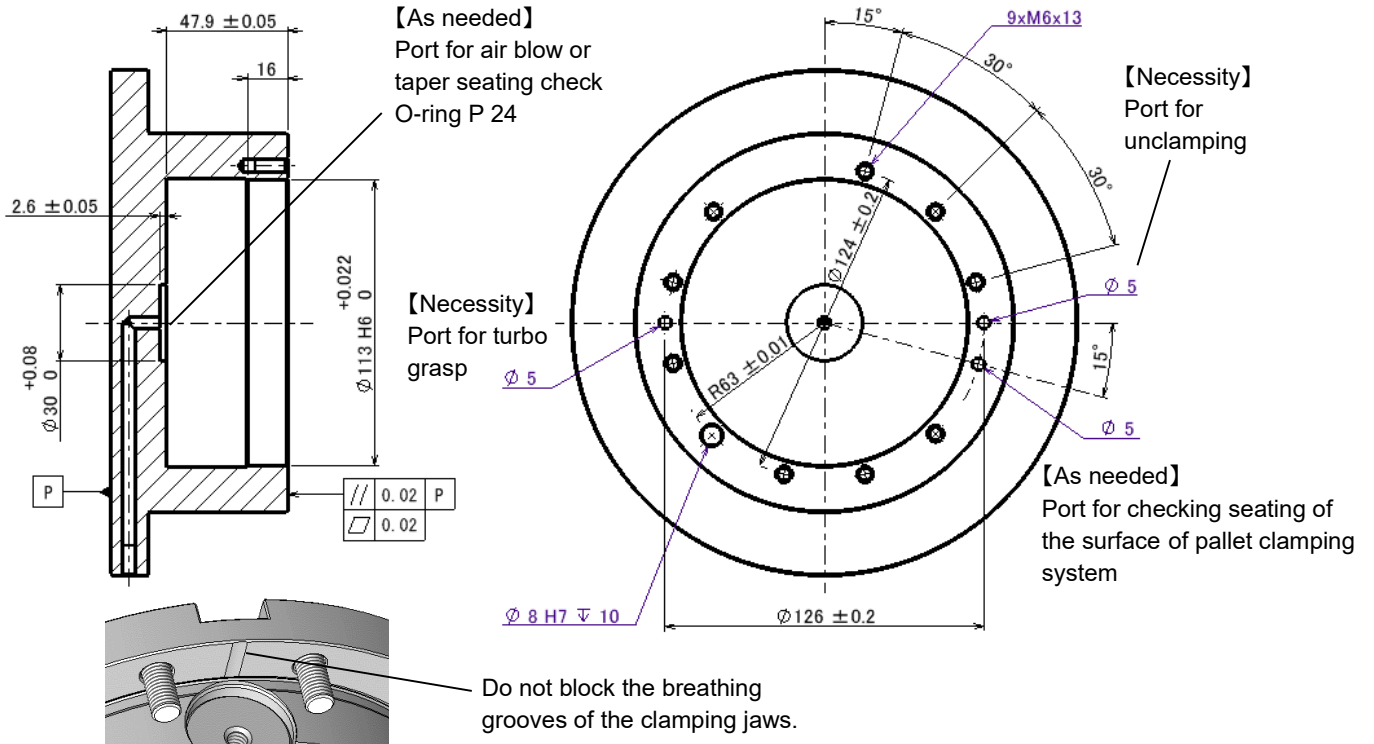

Figure 6-1 Adapter Design Example
- An example of an adapter design is shown in Figure 6-1. The ports for unclamping and turbo grasp are necessary, and the other two ports can be used as needed. When using the center port, remove the set screw [5].